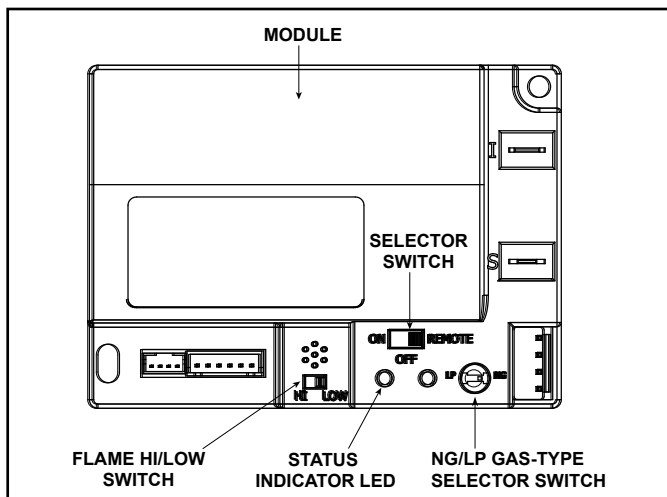

Figure 3.6 Control Module
- Slide the ON/REMOTE/OFF selector switch to the ON position. See Figure 3.6.
1. The control module has an ON/OFF/REMOTE selector switch that must be set. See Figure 3.6.
2. If using a wired wall switch with the module in REMOTE mode, the flame output can be adjusted with the HI/LO selector switch on the module. See Figure 3.6. Note that the flame HI/LO selector switch will become inactive once an optional remote control (RC300) is programmed to the control module. Note that the control module will always ignite the fireplace on HI and remain so for the initial 10 seconds of operation. If the HI/LO is switched to the LO position, the flame output will automatically drop to the lowest setting after the flame has been established for 10 sec. After this 10 second period, the flame can be adjusted from HI to LO with the switch.
- Locate the module selector switch. (See Figure 3.6).
- Wait five (5) minutes to allow possible accumulated gas to clear.